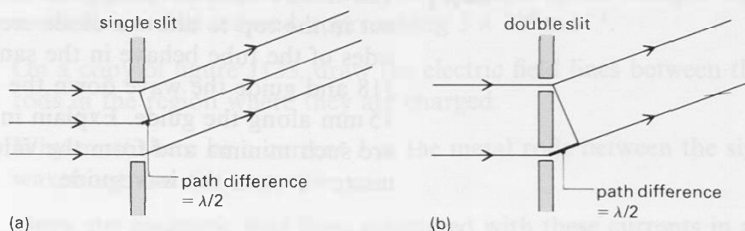

Figure J130
- 33(R)** Light from a distant point source falls on a single slit, and also on a double slit, as shown in figure J130 parts (a) and (b).